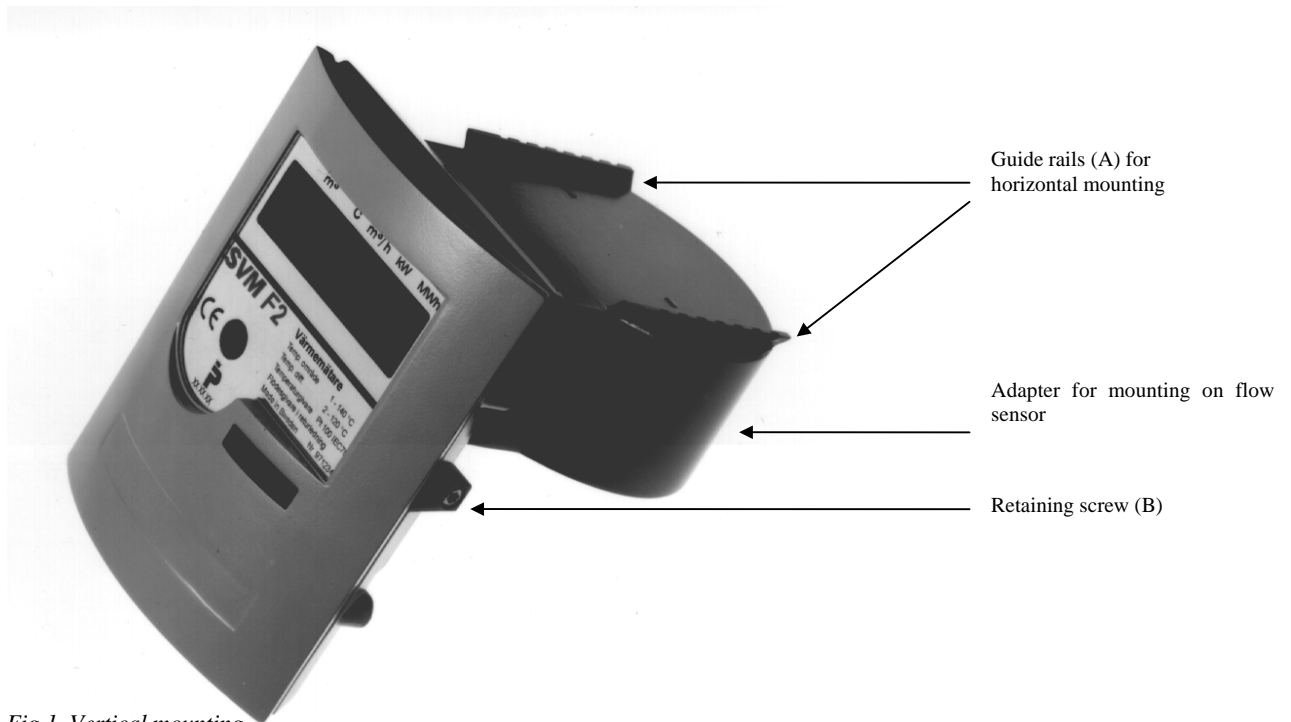

Fig.1, Vertical mounting
Mount the holder at the wall and slide the calculator onto the guide rails (A). Secure it with the retaining screw (B in figure 1).